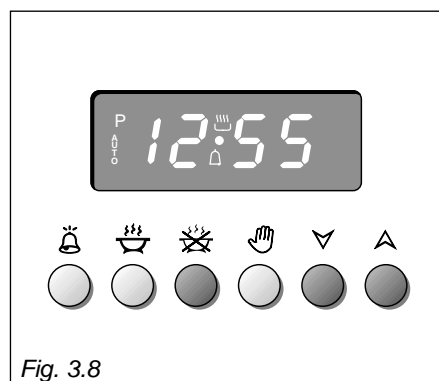

Fig. 3.8
2. Set the end of the cooking time by pushing the ☹ button and the ▲ button to advance, or ▼ to go backwards if you have passed the desired time (Fig. 3.8).